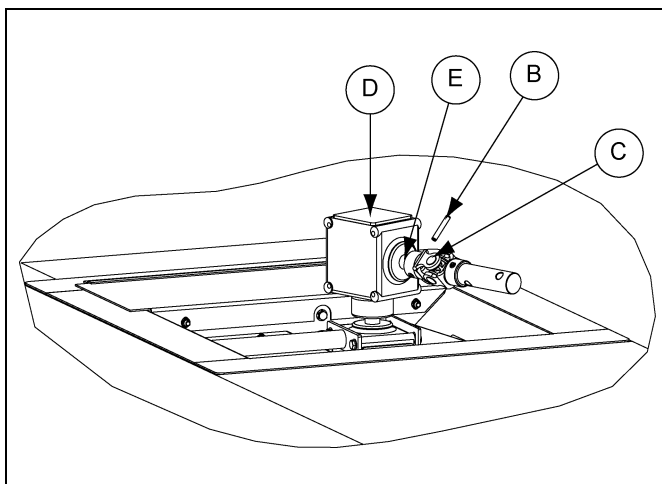

Figure 4X
- b. Secure the U-joint using a 5/16" x 2" roll pin. *(See Figure 4X.)*